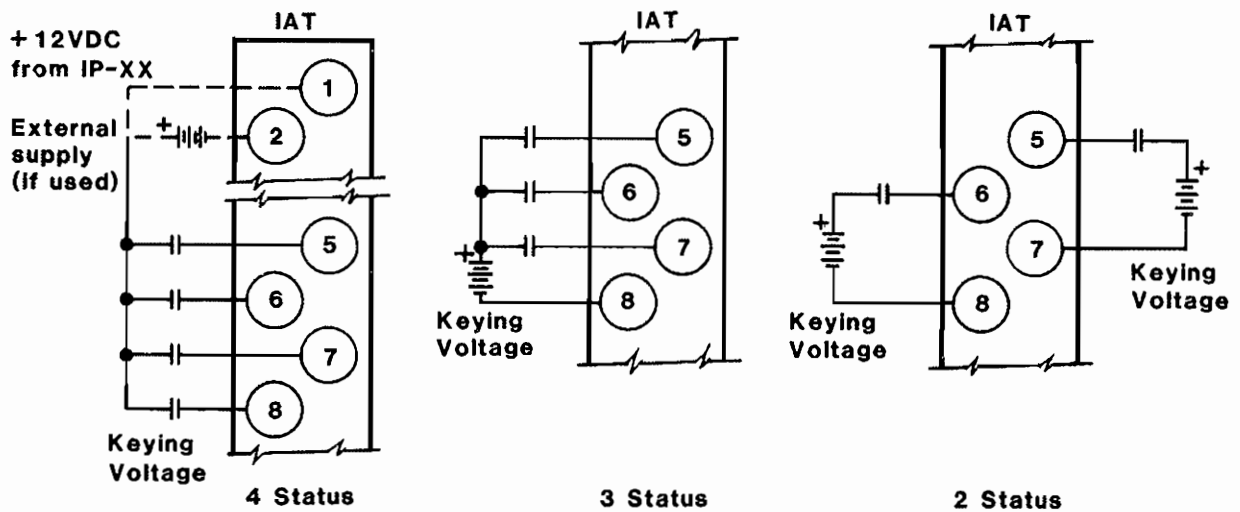

Figure 5. Status Input Isolation—Electrical Connections
5.7 Table 5-3 gives the jumper positions for each status configuration while Figure 5 shows the terminal connections for the three cases. Four opto-coupled inputs with common return provide semi isolation. Three opto-coupled inputs sharing a common isolated return provide full isolation from the IAT. Two opto-coupled inputs with separate isolated returns provide full isolation from the IAT and from each other.